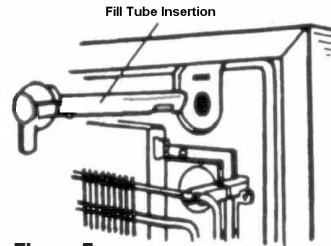
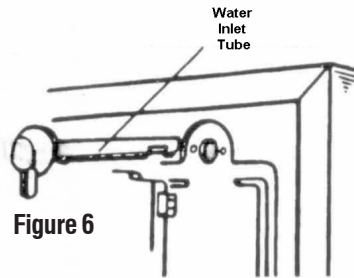

Figure 5
Figure 6
6. Push water inlet tube through the installation hole in the back of the unit, see Figure 5 for external condenser models, see Figure 6 for internal condenser models. Using a circular motion as you push through the insulated area between the case and the inner liner, will make this easier.